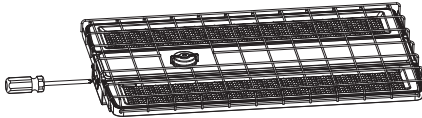

Figure 8
Step1. Place the wire guard on the lamp and fix it with screws (Figure 8).